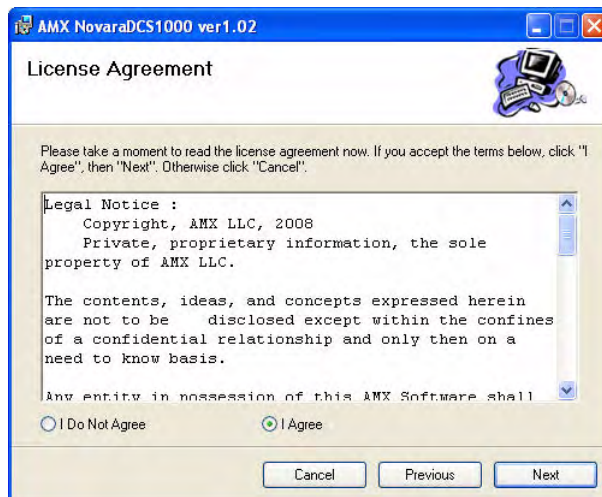

FIG. 13 AMX DSC1000 License Agreement
3. Read the *License Agreement* (FIG. 13), and click **I Agree** to accept the terms and proceed with the installation. (otherwise, click **Cancel**).